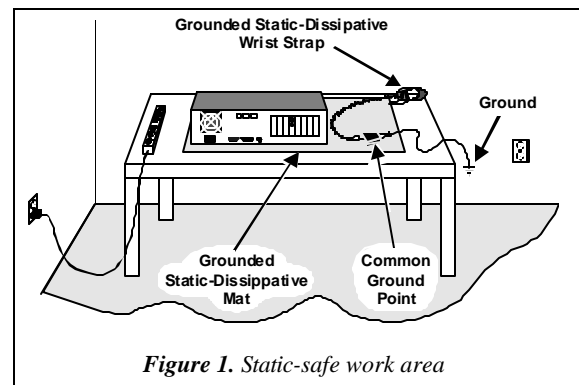

Figure 1. Static-safe work area
- Work at a static-safe work area (see Figure 1).
1. Prepare a static-safe work area, turn off all power to the system, and disconnect the system's power cords from electrical outlets. See Figure 1.